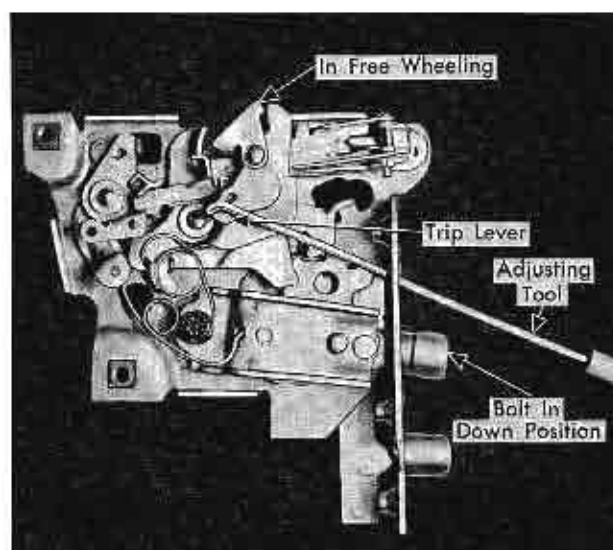

Fig. 3-29 Adjusting Rear Door Lock Out of Free Wheeling
4. To adjust lock from free-wheeling to normal, pull lever rearward, Fig. 3-29.